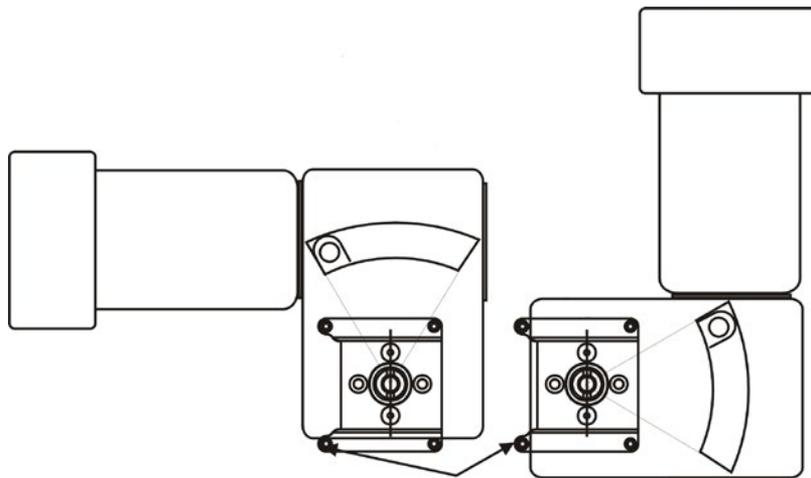
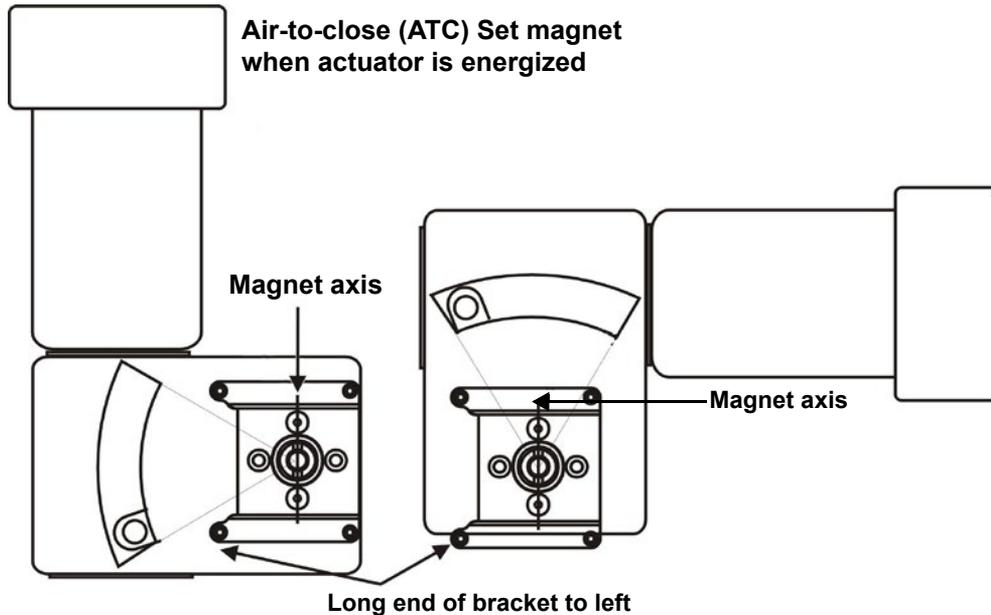

Figure 19 - Camflex Air-To-Open Mounting (Front View)
Figure 20 - Mounting Bracket on Air-to-Close Actuator
1. Attach the SVI FF rotary mounting bracket to the valve actuator using two (2) 5/16 - 18 UNC flat-head cap screws. Mount the SVI FF as shown in Figure 19, ATO or in Figure 20 on page 51, ATC. In the preferred mounting position, the long end of the mounting bracket is on your left when facing the actuator, for any position of the valve and actuator.
5. Rotate the magnet holder so that the magnet axis is vertical when the valve is in the closed position. See Figure 19 on page 50 and Figure 20.